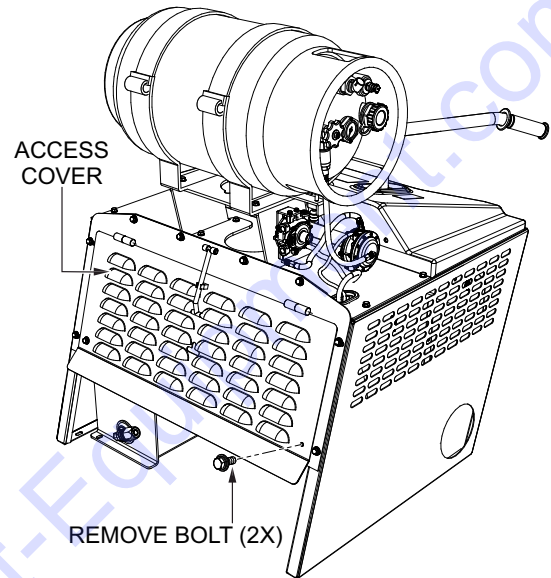

Figure 42. Access Cover
6. Remove the two bolts that secure the access cover (Figure 42) to the buggy frame.